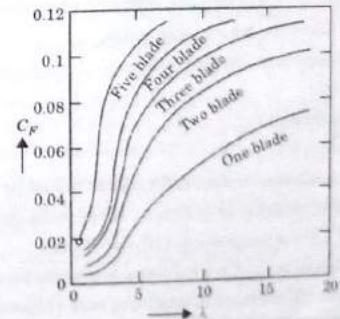

Fig. 4.13.3. Thrust force coefficients-tip speed ratio.
1. The variation of thrust force coefficient with tip speed is shown in Fig. 4.13.3.